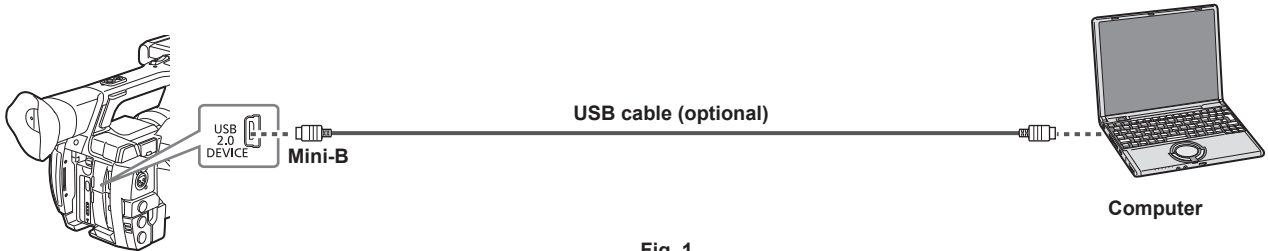

Fig. 1
**1** Connect the USB cable to the <USB2.0 DEVICE> terminal (device). (Fig. 1)